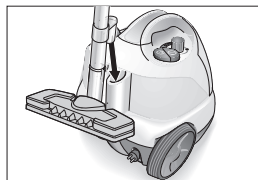

Figure 9: Parking position
- If you interrupt your work for a short period of time, the extension tube with the attached nozzle can be inserted into the parking position (see Figure 9).